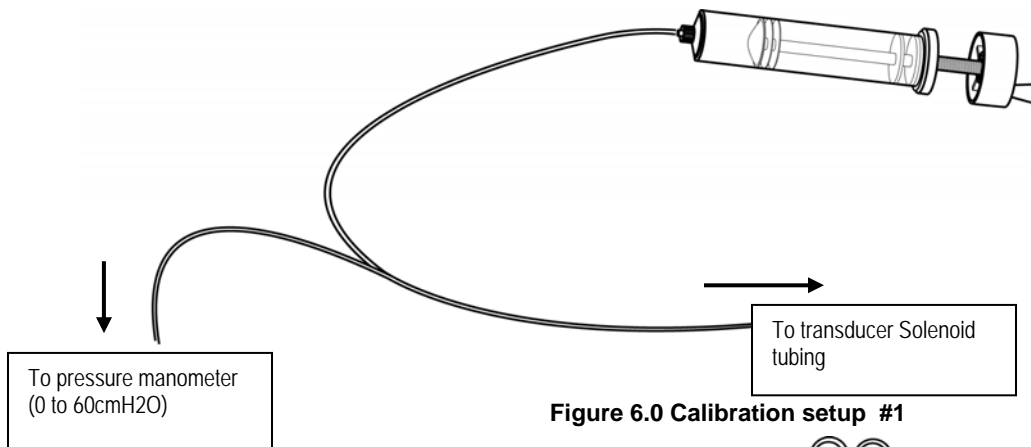

Figure 6.0 Calibration setup #1
5. Connect test set-up #1 as shown in figure 6.0.
6. Connect test set-up #1 as shown in figure 6.0.